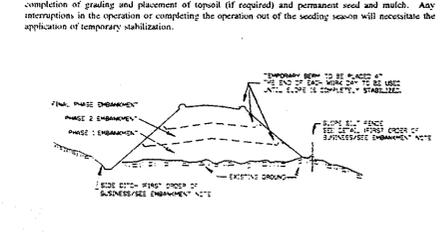

Figure 5 Incremental Stabilization - Fill G-20-7
- Excavate and stabilize all temporary swales, side ditches, or berms that will be used to divert runoff around the fill. Construct Slope Sill Fence on low side of fill as shown in Figure 5, unless other methods shown on the plans address this area.